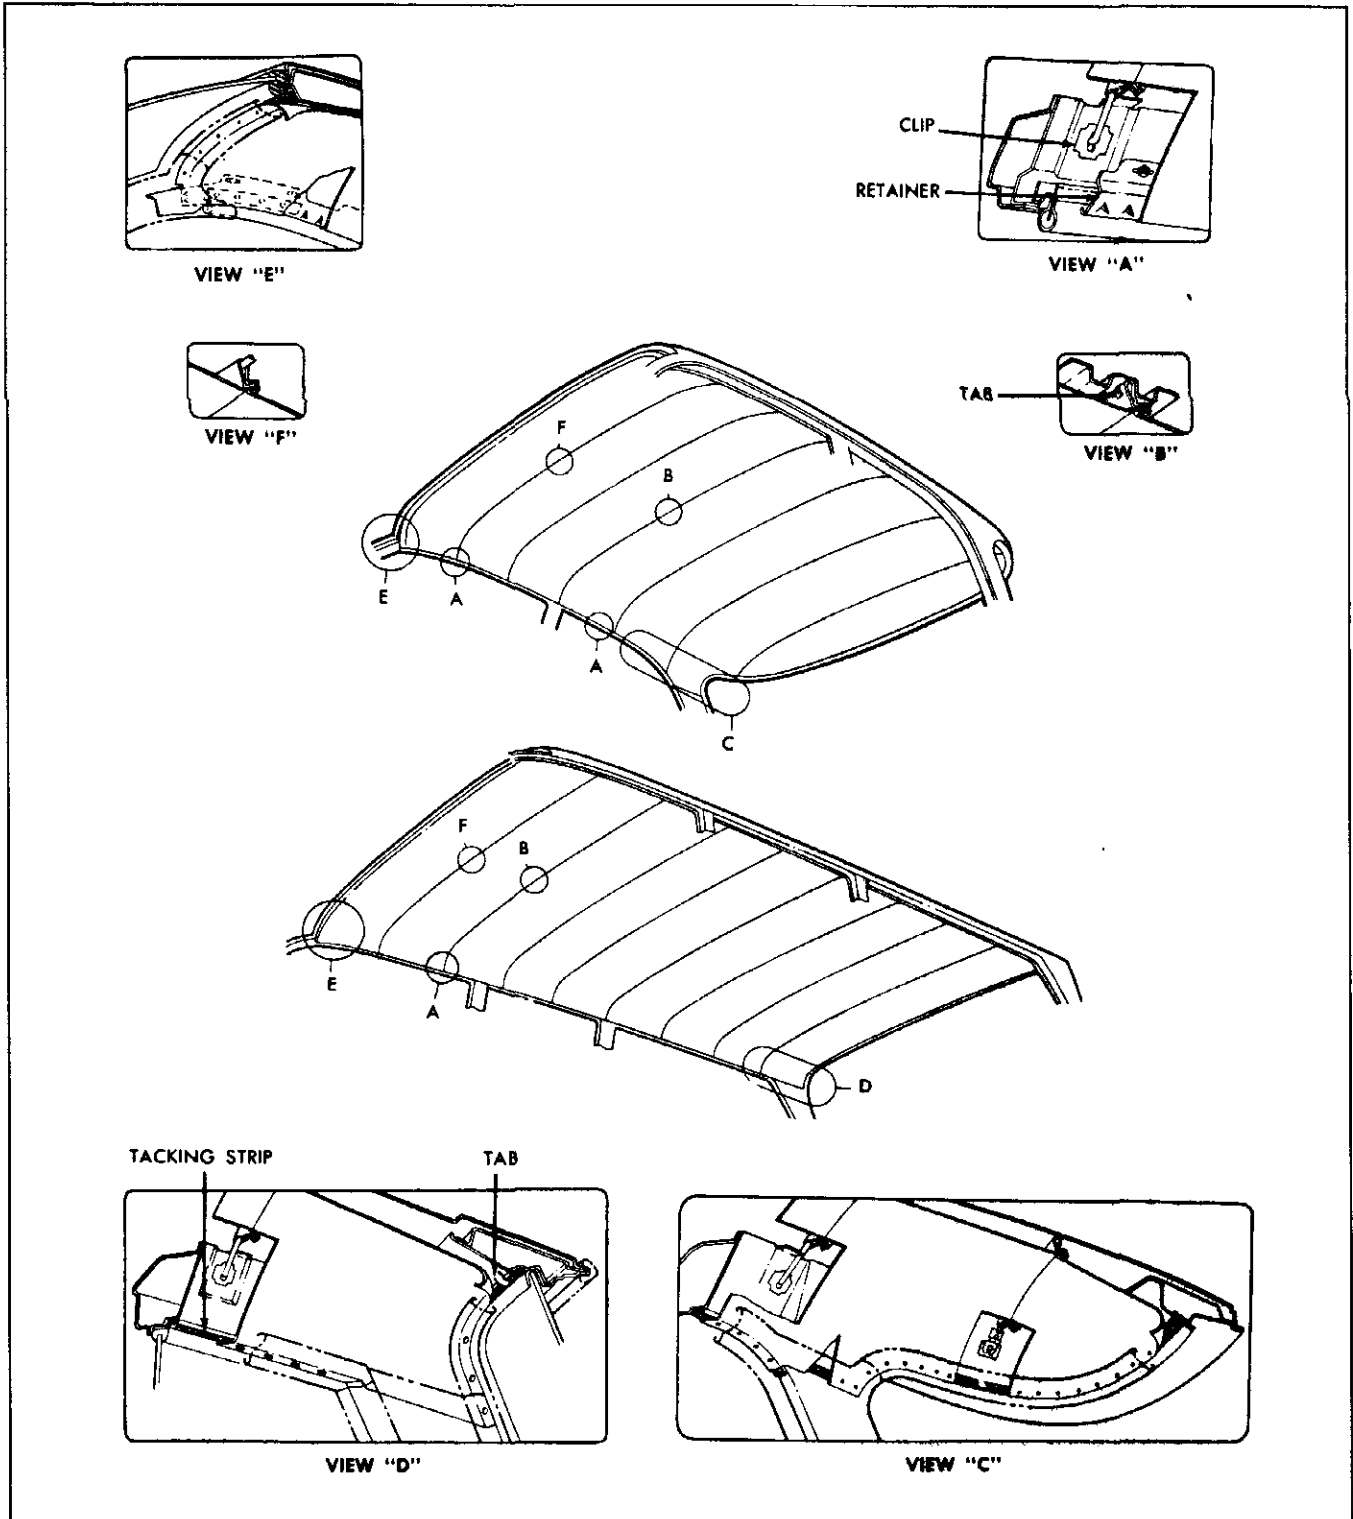
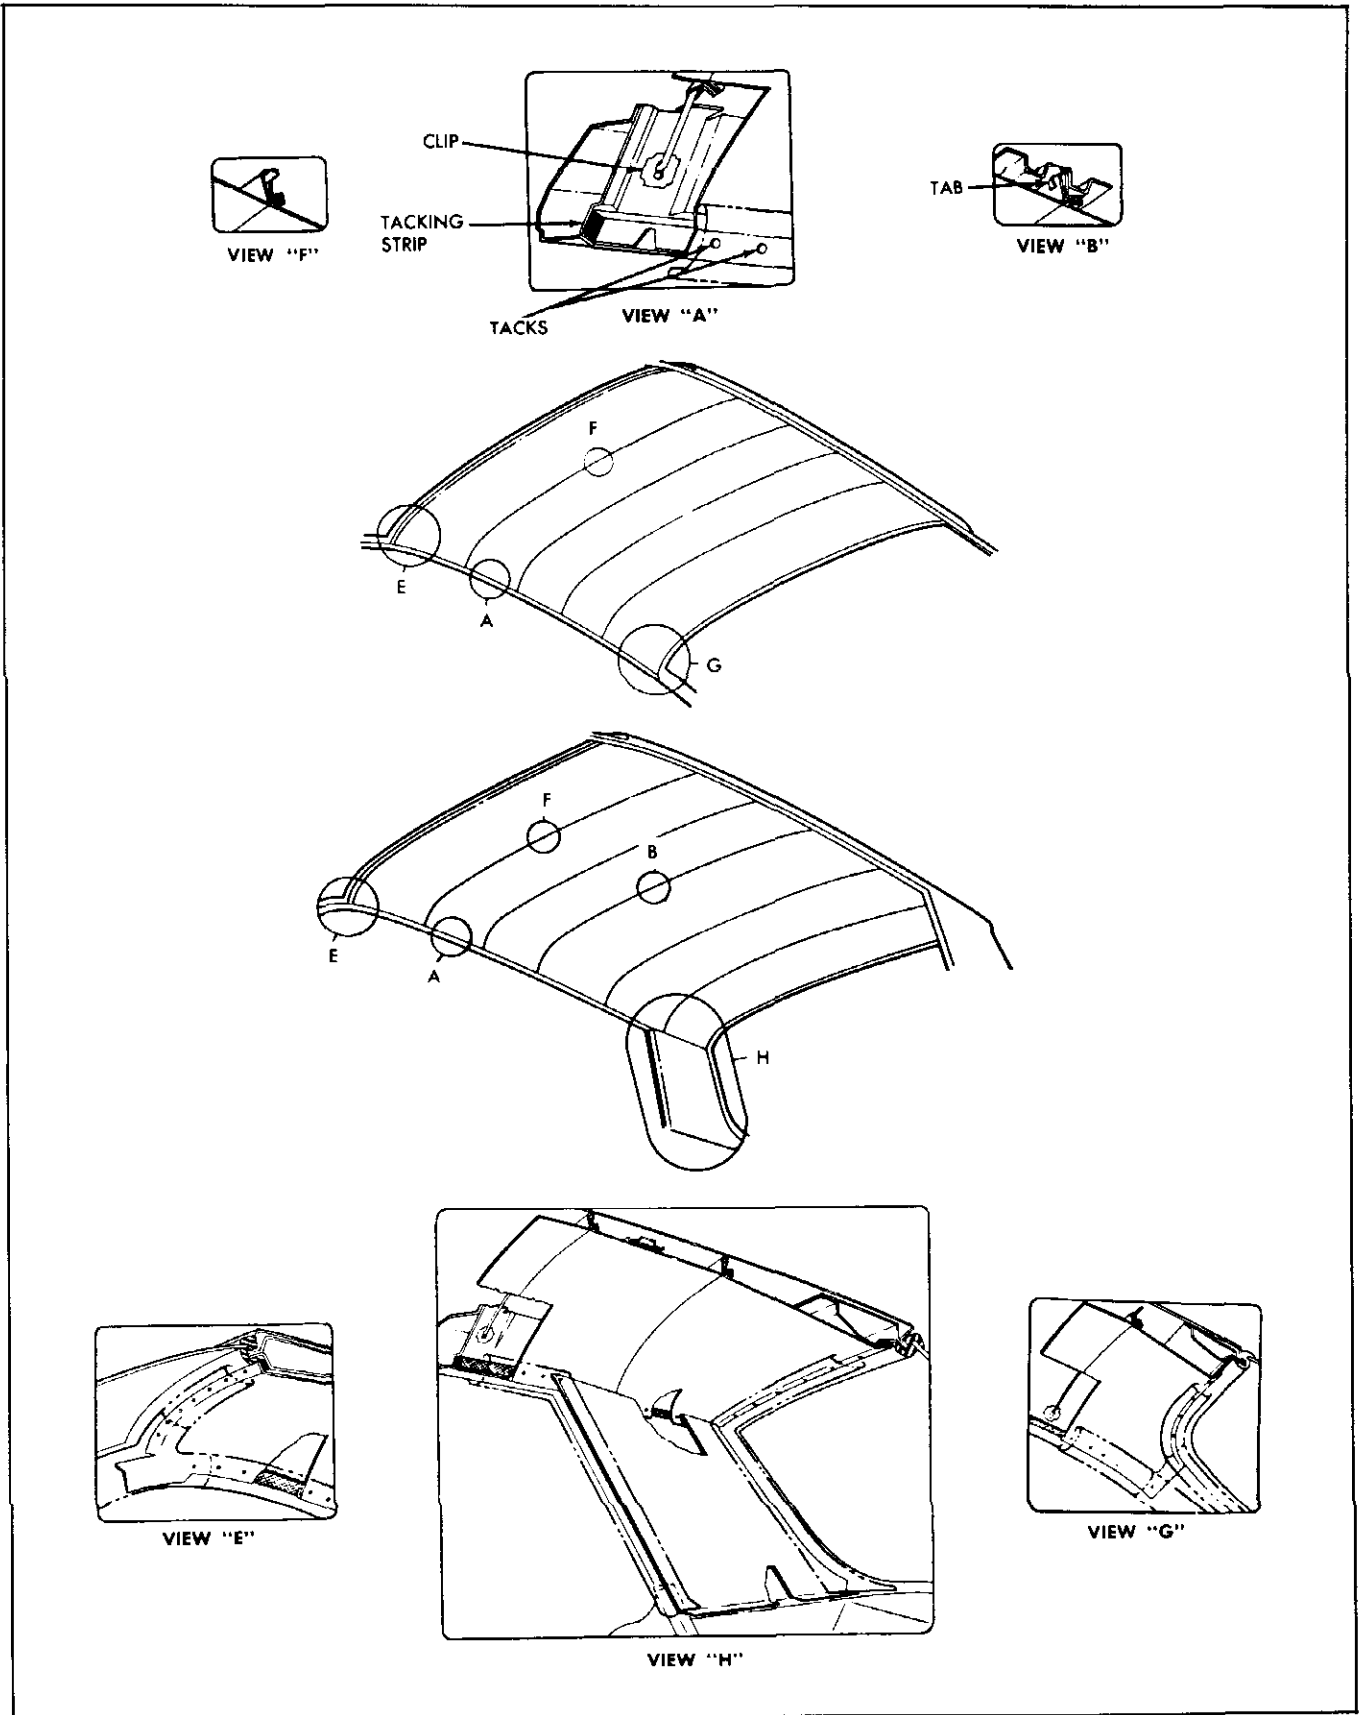

Fig. 6-1 Headlining Assembly
Fig. 6-2 Headlining Assembly
4. On styles where headlining is secured to side roof rails by retainers, use headlining inserting tool J-2772 or similar wide-bladed tool and carefully disengage headlining from retainer tabs (view A, Fig. 6-1).
5. Working from front to rear of body, disengage headlining listing wires from side roof rails, gathering or folding headlining with listing wires on outside to keep headlining clean. Bend down metal tabs at bows on bodies using tabs to support listing wire (view B, Fig. 6-1 and 6-2).
6. Disengage headlining on styles using foundation board from metal tabs or retainers at back window (view D, Fig. 6-1) and remove headlining assembly from body.
IMPORTANT: Note into which hole the ends of the listing wires are installed to insure proper installation (view A, Fig. 6-1 and 6-2).
2. Center and align rearward end of headlining and engage foundation board where used under metal retainer or metal tabs above back window (view D, Fig. 6-1). Then working forward, install ends of listing wires into listing wire holes along side roof rail.
NOTE: Make certain listing wires are installed in correct hole in clips to insure proper contour of headlining (view A, Fig. 6-1 and 6-2).
3. Install balance of listing wires into proper holes in listing wire clips (view A, Fig. 6-1 and 6-2). Install listing wire where necessary to roof bow metal retaining tabs, center headlining and bend over retaining tabs.
4. Center and align headlining in relation to windshield opening, back window opening, coat hooks and sunshade support locations. Then apply trim cement to headlining tacking surfaces at windshield and back window openings, (view C, D and E, Fig. 6-1 and views E, G and H in Fig. 6-2) and stretch and stay tack headlining to windshield and back window openings and along side roof rails if tacks are used.
5. Remove all fullness and draws from headlining material and permanently tack headlining to tacking strips (view A, Fig. 6-2).
side roof rails (view A, Fig. 6-1).